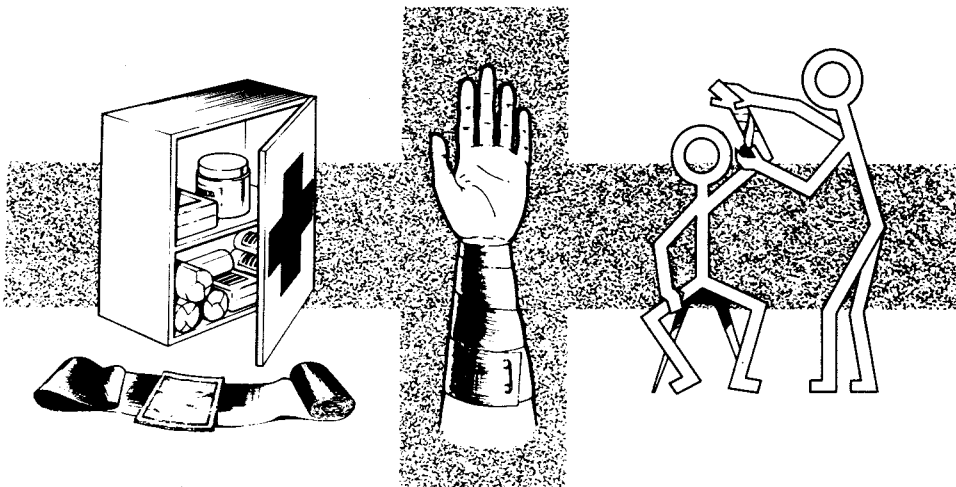

Fig 3.14 Treating major wounds
- Raise the part that is bleeding above the level of the rest of the body, if possible, and support it (Fig 3.14).